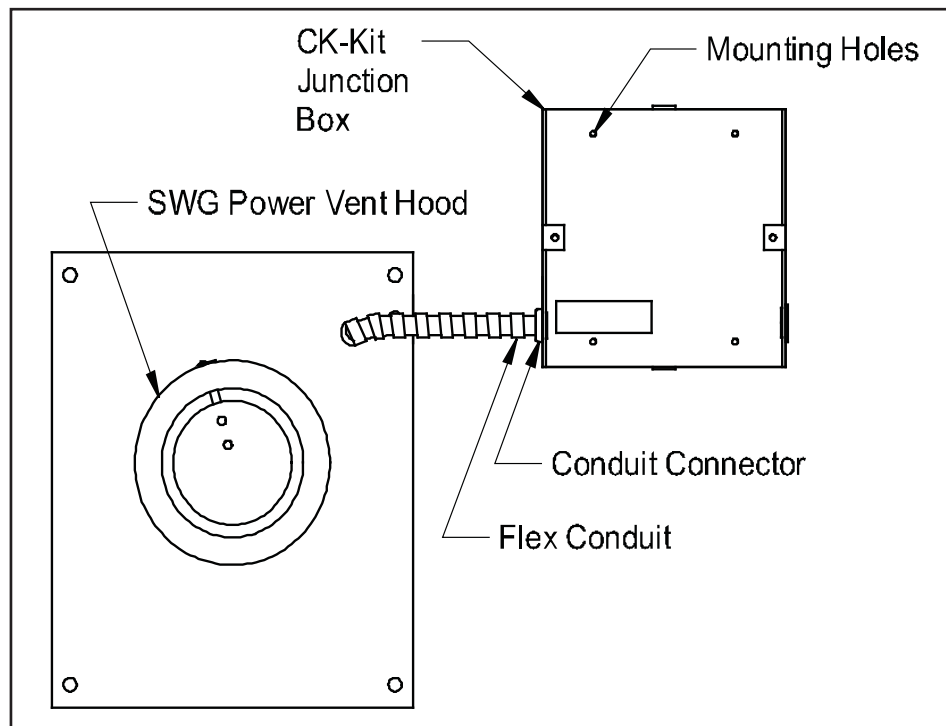

Figure 1
(See Figures 1 & 2)
2. Fasten the flexible conduit from the SWG Venter into the conduit connector. Mount the CK-20F junction box or installer supplied junction box onto the wall or floor joist without straining the flexible conduit. Fasten the CK-20F junction box through the four dimpled locations on the base of the box. (See Figure 1)